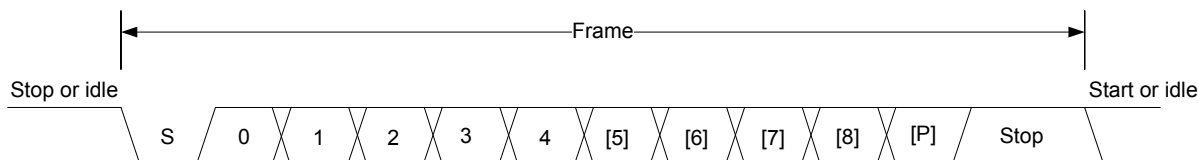

Figure 18.2. USART Asynchronous Frame Format
The frame format used in asynchronous mode consists of a set of data bits in addition to bits for synchronization and optionally a parity bit for error checking. A frame starts with one start-bit (S), where the line is driven low for one bit-period. This signals the start of a frame, and is used for synchronization. Following the start bit are 4 to 16 data bits and an optional parity bit. Finally, a number of stop-bits, where the line is driven high, end the frame. An example frame is shown in Figure 18.2 USART Asynchronous Frame Format on page 496.